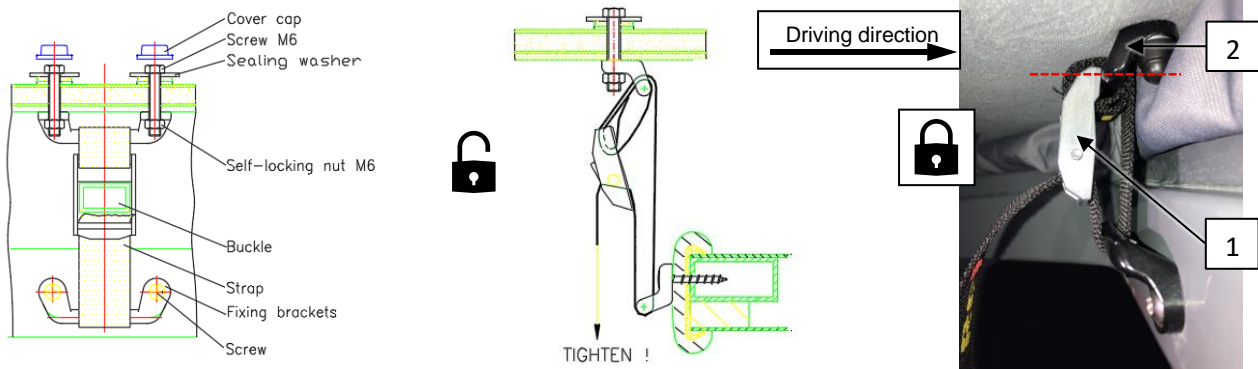

Fig. 7-1: Webbing guide for the lock [A0003772]
- Attach the belt according to Fig. 7-1 and tighten it: **The buckle (1) must rest on the bracket (2)!**